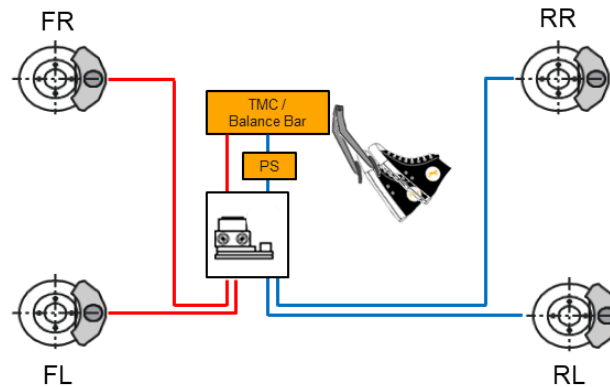

Figure 7: Hydraulic Setup
The hydraulic setup is shown in Figure 7. It requires a front/rear brake circuit split and can be used with either a tandem master cylinder or two master cylinders in combination with a balance bar. The integration of the HECU and the external pressure sensor (PS) is described in the following.
The external hydraulic brake pressure sensor must be installed in the rear brake circuit between the master cylinder and the HECU, as shown in Figure 7: Hydraulic Setup.